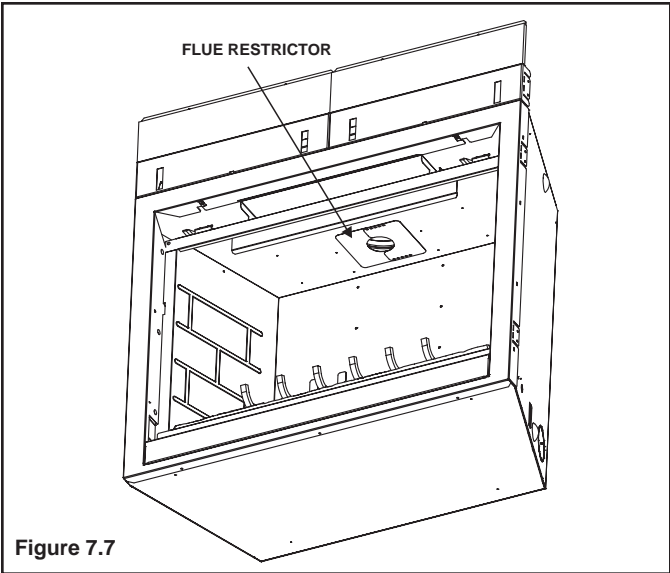

Figure 7.7
1. Note location of flue restrictor (see Figure 7.7). Break the flue restrictor into two pieces. Do this by bending the part back and forth until it breaks (see Figure 7.8).